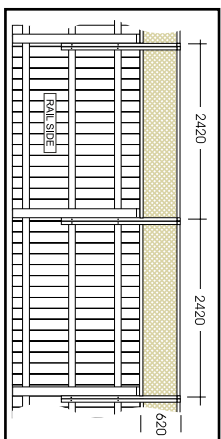

Fig 1a
- If fitting Matrix Fence Extensions to the frame side of the fence, select a starting point and mark out where each upright will be secured to the fence rails to ensure that there is no interference with the fence posts (each Matrix Fence Extension is 2420mm long as shown in Fig 1a). Shift the starting point or shorten one of the Fence Extensions if there is interference with a fence post.
4. Attach each fence extension to the fence using 2 large screws or bolts per upright as shown in Fig. 1a, 1b, or 1c. Measure from the top of the fence to middle of the first and second fence rails, then mark and drill the holes in each upright. The holes need to be large enough for the screws or bolts to fit through easily.